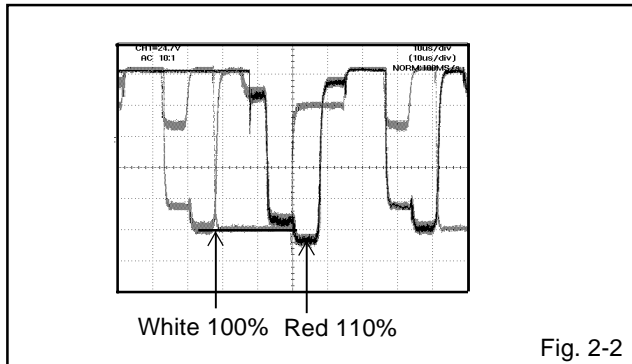

Fig. 2-2
7. Press the VOL. UP/DOWN button on the remote control until the red color level is adjusted to 110 ±10% of the white level. (Refer to Fig. 2-2)